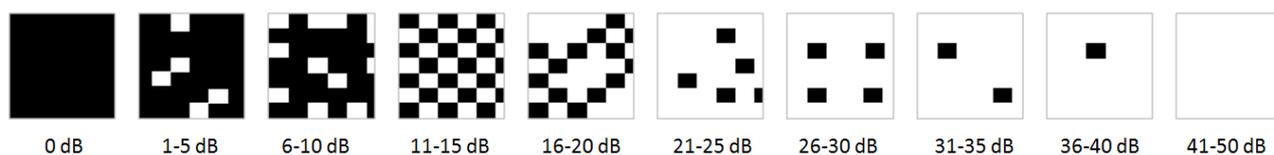

Fig. 55 – Symbols used for the grayscale map and related dB intervals
8. Grayscale VF map (see Fig. 55 for the gray tone symbols adopted), using the Standard Perimetry display convention